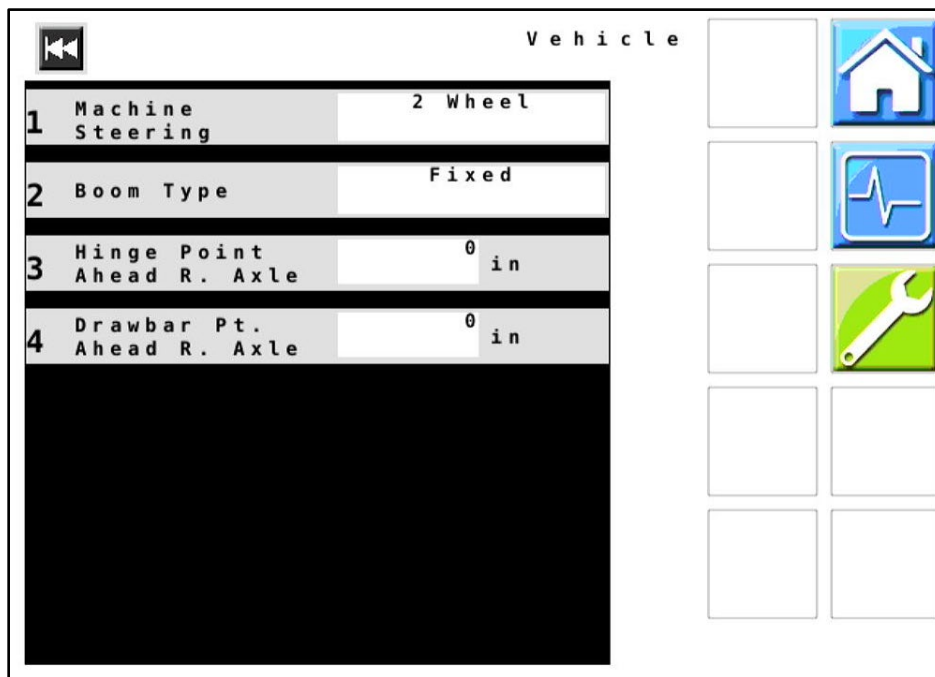

Figure 19 — Vehicle
38. **Figure 19:** Verify that all values displayed on your unit match those shown here. Change values if necessary.